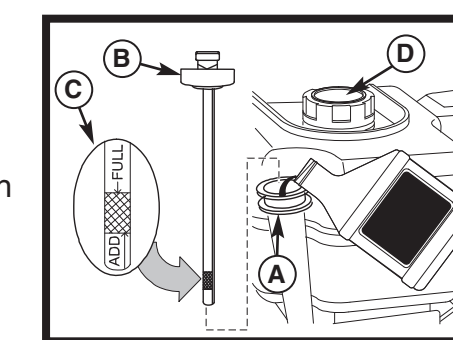

Figure 12
- Clean the area around the oil fill tube (A, Figure 12). Remove the dip stick (B) from the oil fill tube and wipe the dip stick with a clean rag.
- Insert the dip stick (B) into the oil fill tube (thread in or push down completely).
- Remove and check the engine oil level (C). Oil level should be between FULL and ADD MARKS. If necessary, add oil to the oil fill tube.
- Replace and fully secure the dip stick (B).
- Remove the fuel cap (D, Figure 12).
- Reinstall the fuel cap (D).